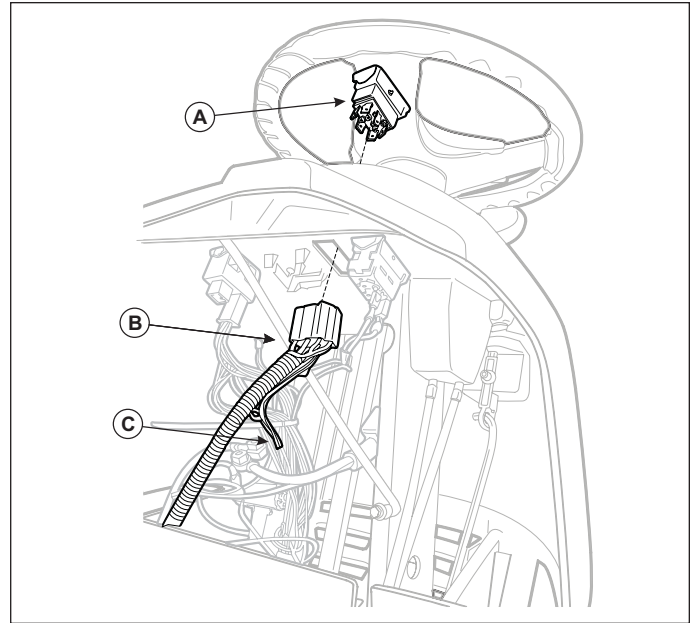

Figure 19. Upper Wiring Harness
1. Wiring Harness is in four (4) parts.
2. Remove plug from tractor control panel at position shown and install the chute rotation switch (A, Figure 19).
3. Plug female receptacle (B, Figure 19) end of the upper wiring harness onto switch.
4. Route the upper wiring harness (B, Figure 19) down through the right side of the panel enclosure, locating the square connector in front of the firewall, along the tractor frame.